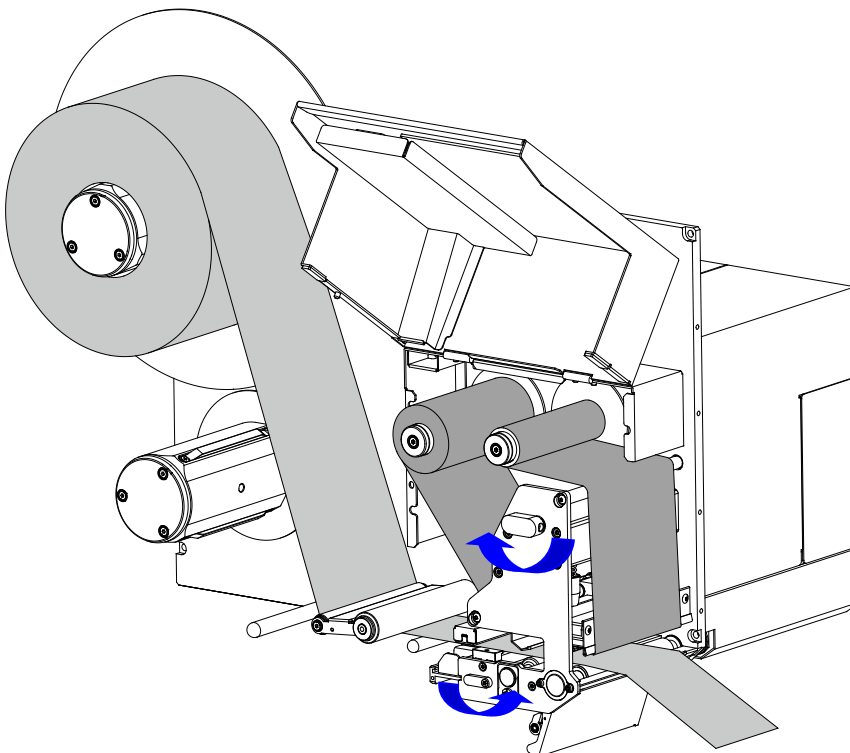

Figure 2-26 Release the Pinch Roller Assembly
7. Turn the Printhead Handle counter clockwise to open the Printhead, then turn the Hook Handle counter clockwise to release the Pinch Roller Assembly, as shown in Figure 2-26.